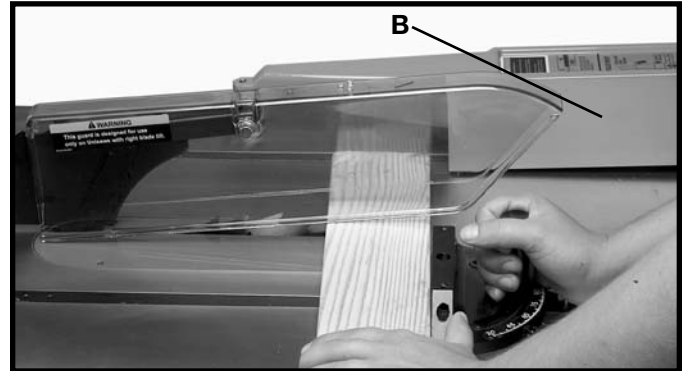

Fig. 86
The fence can be used as a cut-off gage when cross cutting a number of pieces to the same length. **IMPORTANT:** When using the fence as a cut-off gage, it is very important that the rear end of the fence be positioned so the work piece is clear of the fence before it enters the blade. When using the fence as a cut-off gage, position the fence (A) to the front as shown in Fig. 84, or purchase a 12" long fence (B), as shown in Fig. 85. A typical operation using the 12" long fence (B) as a cut-off gage is shown in Fig. 86.